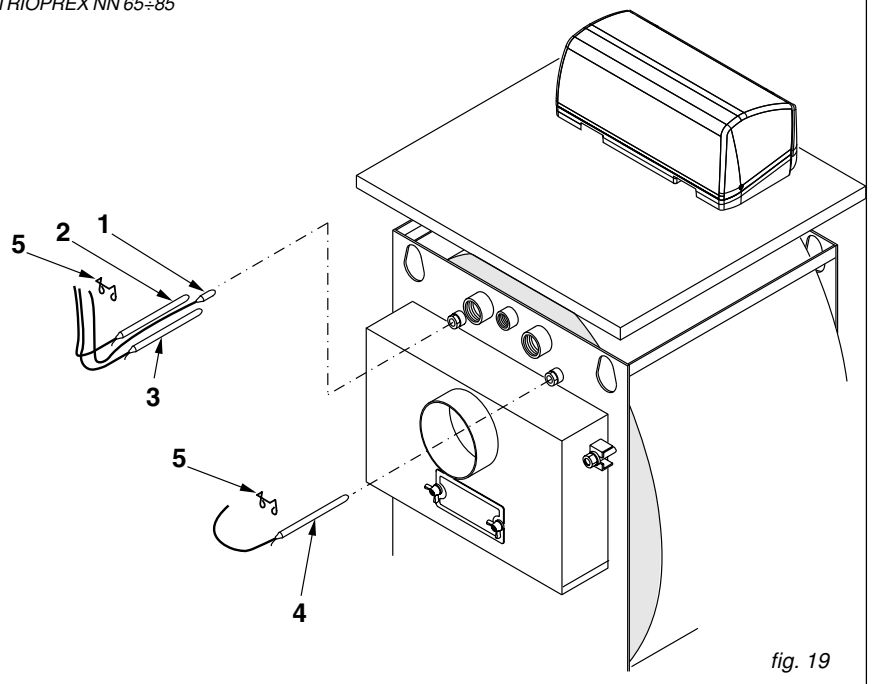

fig. 19
| <p>A) Fit the insulation blanket (1) onto the boiler shell and secure it in to place using the elasticated straps (2) provided, ensuring that the metal clips grip in to the external surface of the insulation.</p> <p>B) Locate the side panels (3) and (4) with the lower bend inside the bottom L profiles and the upper bend in the seats of front and rear tube plates.To determine which is the left and right panel ensure that the cable glands are positioned facing toward the front edge.</p> <p>C) After removal of the two side screws from the panel board rotate its cover frontwards and insert the cables and the capillaries of thermometer and thermostats through the slots on its base.</p> | <p>Fit the panel board to upper panel (8).Fit the upper panel (8), complete with the panel board to the side panels (3 &amp; 4).</p> <p>D) Insert the thermometer and thermostat bulbs in the bulb holders as shown in fig. 19 and connect the mains, the burner, the pump(s) and any ancillary equipment to the panel board.Close the panel board.Guide the burner plug through the side cable clamp plate (9) on the preferred side and clamp the cable using the cable clamp supplied.Fix the side cable clamp plates (9) to the casing side panels (3 &amp; 4).Fit the cable clamp (pos. 12) onto the rear bend of a side panel, pos. 3 or 4.</p> | <p>E) Fix the rear lower panel (pos. 11) with the self tapping screws.</p> <p>F) Remove the protective paper film from data plate and ventilation requirement label and fit them at the top front corner of the most accessible side panel after removal of dust from the surface.The data plate and label are in the documents envelope.</p> |